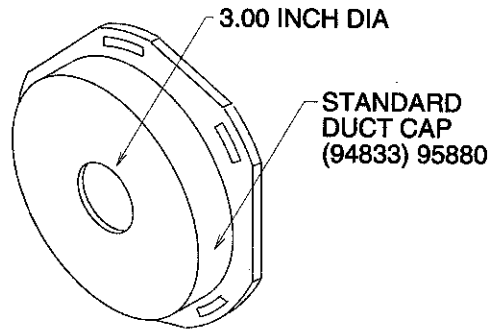

Figure 2-1. Baffle Assembly
2-2. Table 2-1 lists the special tools and equipment required for servicing and maintaining the air conditioner. While not a special tool, the baffle shown in fig. 2-1 may be helpful in determining the performance capability of the air conditioner.
e. The air conditioner may be checked, as required, to ensure that it can produce pressures from 0 to 4 psig. This may be done by closing off air outlet. Install a baffle manufactured as shown in fig. 2-1.